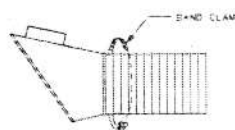

FIG. 3
4. Slip the end of the hose over the nozzle and secure it in place with the band clamp (supplied; fig 3).